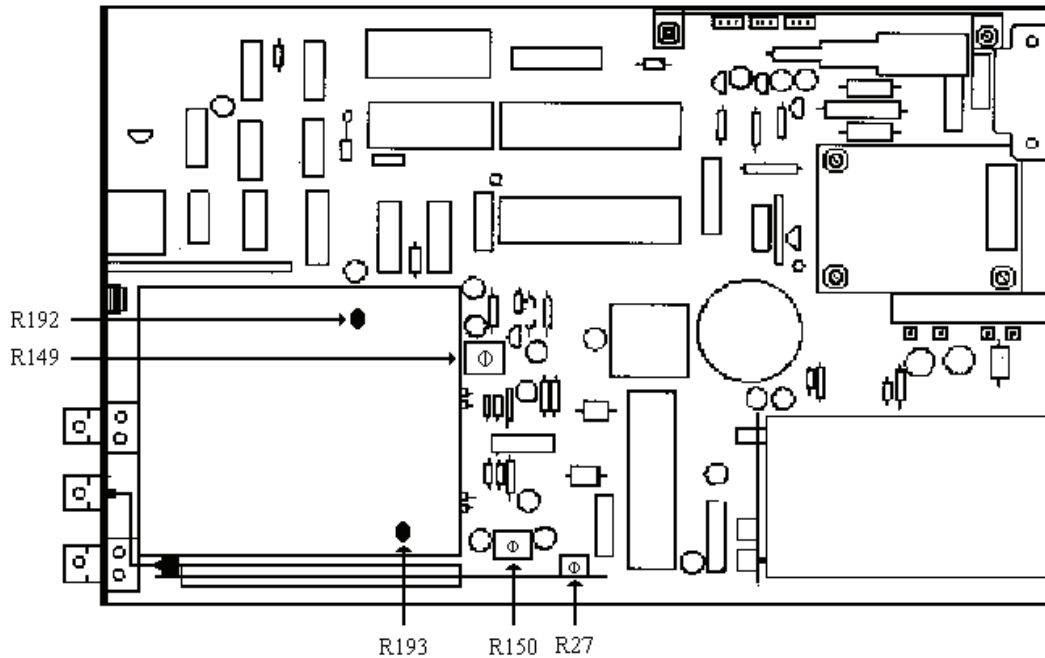

Figure 1. Adjustment locations, test instrument top view.
- (1) Disconnect signal or function generator from TI **INPUT A** and press TI **RESET/CONTINUE** key.
- (2) Adjust R149 (fig. 1) fully ccw.
- (3) Adjust R192 (fig. 1) to its mid-point.
- (4) Press TI **RESOLUTION** ↓ key until display indicates **000**.
- (5) Connect signal generator rear panel **EXT REF INPUT** to TI rear panel **10MHz STD. OUTPUT**.
- (6) Connect signal generator **OUTPUT RF** to TI **INPUT A**.
- (7) Set signal generator frequency to 100 MHz and amplitude to 3 mV.
- (8) Adjust R192 (fig. 1) to obtain a stable  $100.0 \pm 0.1 E^{-6}$  TI indication with **GATE** and **INPUT A TRIG** LEDs flashing.
- (9) Disconnect signal generator from TI **INPUT A**.
- (10) If TI does not indicate  $100.0 \pm 0.1 E^{-6}$  without **GATE** LED flashing; repeat step (6) above through step (10).
- (11) Press TI **RESET/CONTINUE** key.
- (12) Press TI **RESOLUTION** ↑ key until display indicates **00000000**.
- (13) Reconnect signal generator **OUTPUT RF** to TI **INPUT A**.
- (14) Set signal generator amplitude to 13 mV.
- (15) Slowly adjust R149 (fig. 1) cw until TI display just becomes unstable.
- (16) Slowly adjust R149 (fig. 1) ccw until TI display stabilizes and indicates  $100.000000 \pm 0.000001$ .
- (17) Set signal generator amplitude to 7 mV.
- (18) If TI GATE LED is flashing; repeat (14) above through (18).
(1) Disconnect signal or function generator from TI **INPUT B** and press TI **RESET/CONTINUE** key.
(2) Adjust R150 (fig. 1) fully ccw.
(3) Adjust R193 (fig. 1) to its mid-point.
(4) Press TI **RESOLUTION**  $\downarrow$  key until TI displays **000**.
(5) Connect signal generator rear panel **EXT REF INPUT** to TI rear panel **10MHz STD. OUTPUT**.
(6) Connect signal generator **OUTPUT RF** to TI **INPUT B**.
(7) Set signal generator output to 100 MHz and output level to 3 mV rms.
(8) Adjust R193 (fig. 1) to obtain a stable  $100.0 \pm 0.1 E6$  TI indication with **GATE** and **INPUT B TRIG** LEDs flashing.
(9) Disconnect signal generator from TI **INPUT B**.
(10) If TI does not indicate  $100.0 \pm 0.1 E^{-6}$  without **GATE** LED flashing, repeat step (6) above through (10).
(11) Press TI **RESET/CONTINUE** key.
(12) Press TI **RESOLUTION**  $\uparrow$  key until display indicates **00000000**.